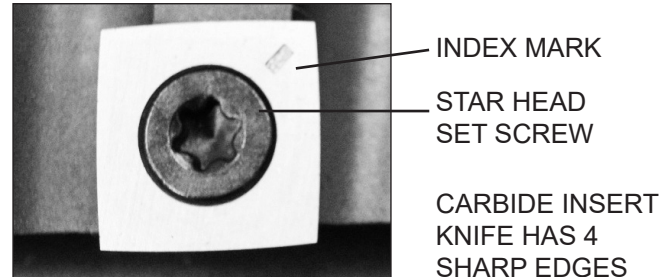

FIG. 26
2. Remove the Screw (#193), that holds the Insert in the cutterhead, and the Insert knife (#192). FIG. 26.
4. Rotate the insert so that a new sharpened edge is in position. The inserts have a indication mark on their top surface corner, so that you can reference the positioning of the insert's dulled or sharpened edges. FIG. 26, 27, 28.